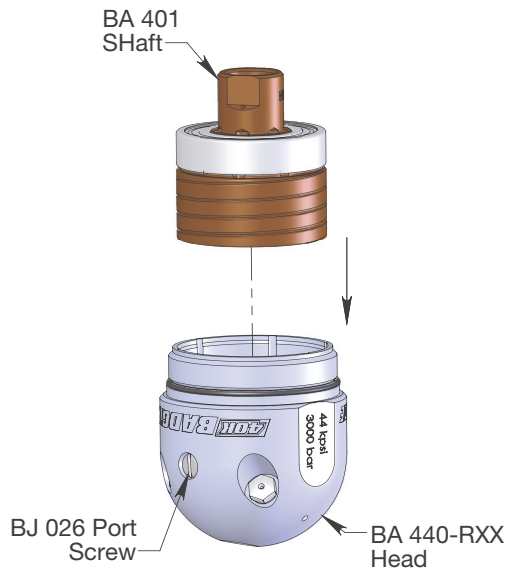

Figure 13: For Steps 10-12
10. Detail 10. Place Head in a vice as shown in Figure 13. Fill inside of Head with Viscous Fluid (BJ 048-F) until it is flush with the top of the Bearing (BA 409) inside the Head. Rock side to side and make sure no air is trapped under Bearing in Head.